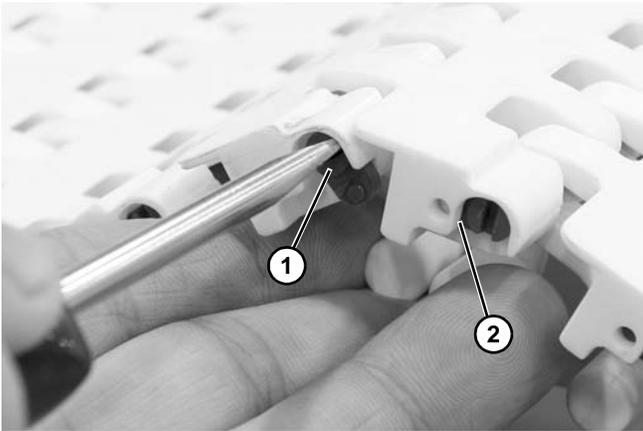

Figure 16
8. Insert a flat blade screwdriver into the slot on the rod head (Figure 16, item 1). Rotate rod head clockwise into the locked position (Figure 16, item 2).